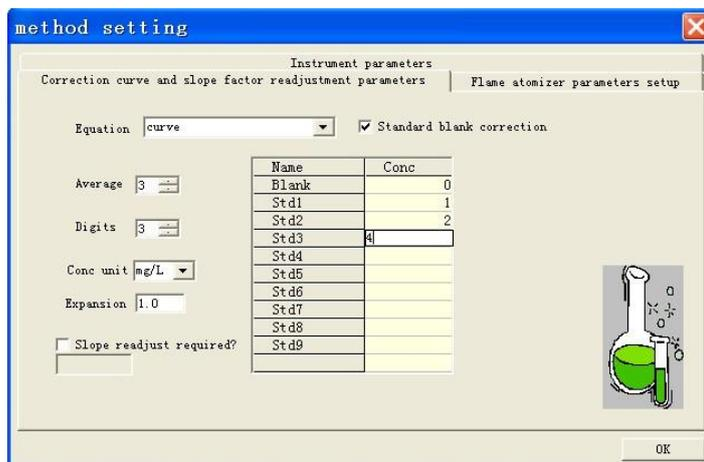

Figure 5-18
6. Select "Curve correction" in the "Equation selection" pull-down list. Determine the conditions based on the actual needs. See Figure 5-18.